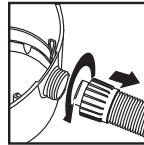

FIGURE 21
28. Unscrew hose locking-nut and remove hose from inlet. **FIGURE 21.**